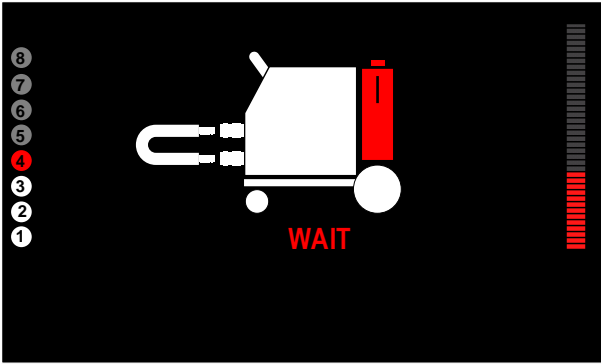

Figure 18
- Wait until the coolant fully circulates through the cooling system and returns into the reservoir - (Figure 18).